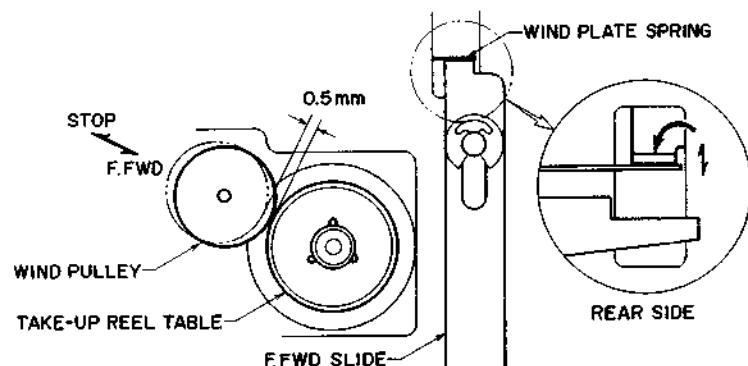

Fig. 1
1. FAST FORWARD SLIDE ADJUSTMENT (Refer to Fig. 1)